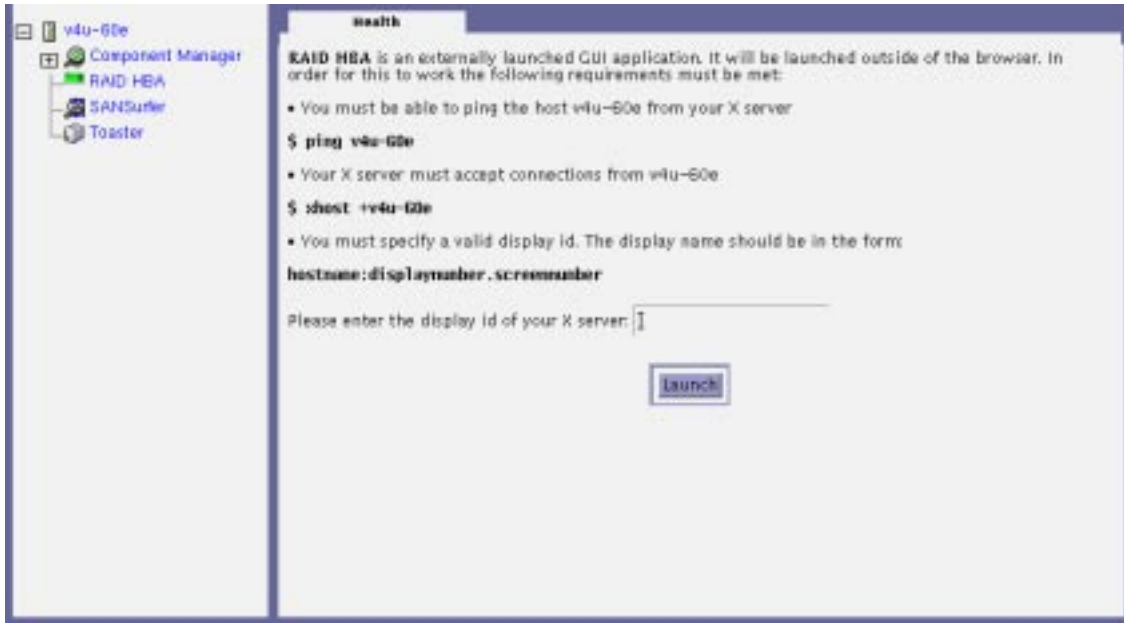

FIGURE 5-12 Health Tab, RAID HBA Controller Launch Window
1. **Double-click (GUI) or click (browser) the RAID HBA icon (see FIGURE 5-12).**